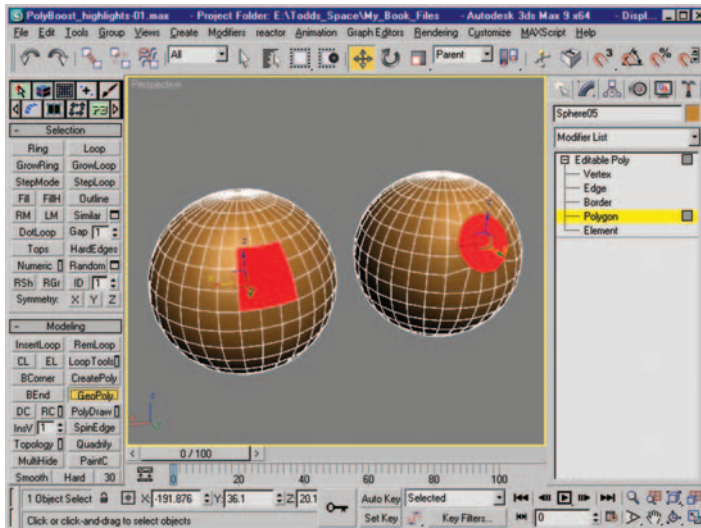

Figure 12.14 Polygon selection before and after using GeoPoly.
16. At the Polygon subobject level, select the large polygon (Figure 12.14, left) and click on the GeoPoly button in the PolyBoost interface. You will be presented with a perfectly circular polygon (Figure 12.14, right).